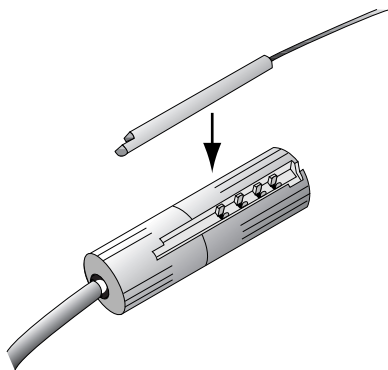

Figure 12. Insert the pin connector into the twist-lock cable.
Note: The handle fits into cylindrical twist connector in only one way (Figure 12).
- d. Insert the stylet handle of the lead into the cylindrical twist-lock connector on the screening cable and lock it (Refer to Figures 12 thru 15).